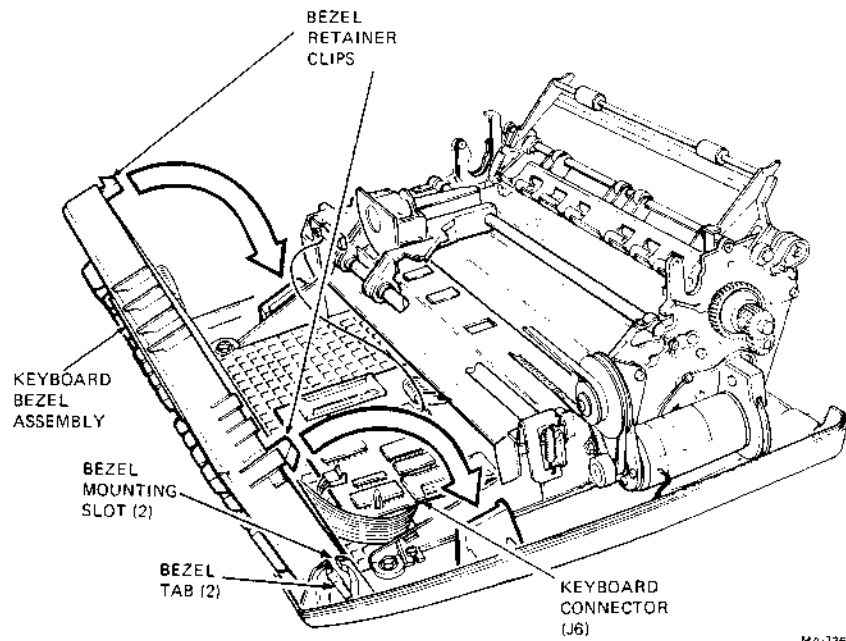

Figure 2-9 Releasing the Keyboard Bezel
5. Press the bezel retainer clips and rotate the keyboard bezel assembly toward the front of the printer (Figure 2-9).